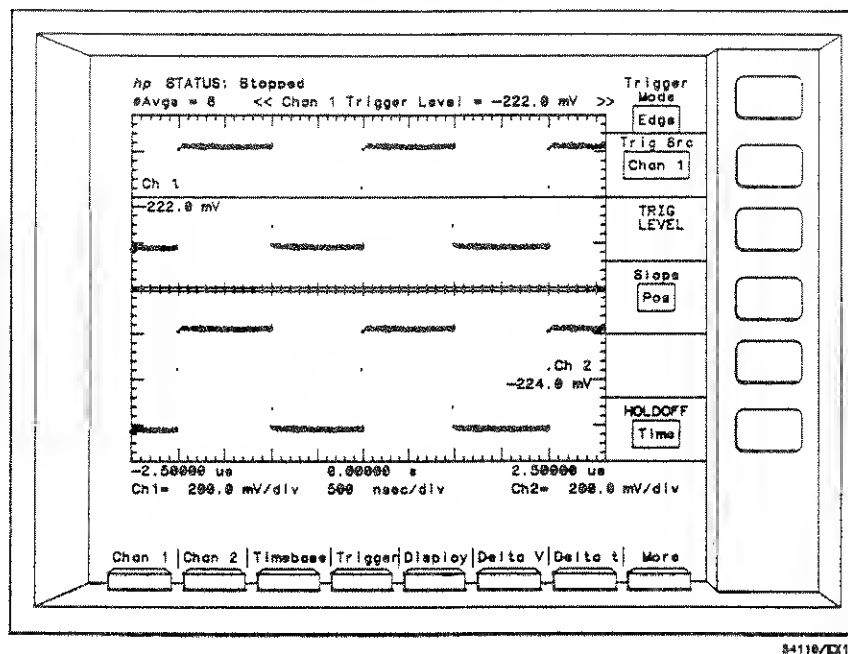

Figure 7-15. Split Screen with Trigger on Chan 2
6. Select chan 2 as the Trig Src. The unit is now triggering on chan 2. The line showing the trigger level will be on the chan 2 display. The trigger level on chan 2 can be varied by using the input devices (see figure 7-15). The trigger level function is shown at the top of the waveform display area and at the bottom of the display in the factors area.